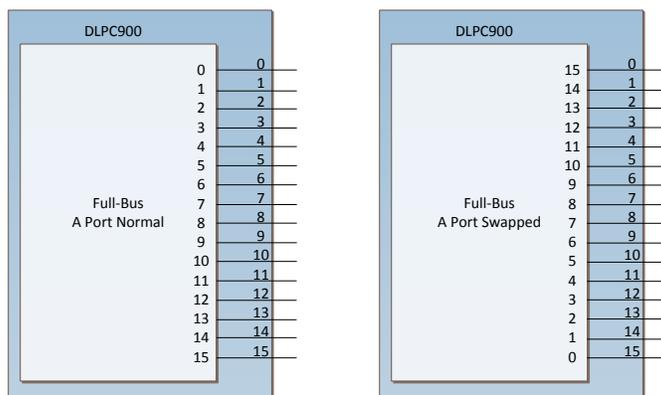

Figure 18. Controller to DMD Full-Bus Connections
- (4) The DLPC900 is a Full-Bus DMD signaling interface. Figure 18 shows the controller connections for this configuration.
- (5) The pulse duration minimum for any clock rate can be calculated using the following formulas.
Figure 18 shows the controller connections for full-bus normal or swapped. Refer to the Firmware section of the *DLPC® LightCrafter™ 6500 and 9000 Evaluation Module (EVM) User's Guide (DLPU028)* for details on how to select the bus swap settings to match the board layout connections.